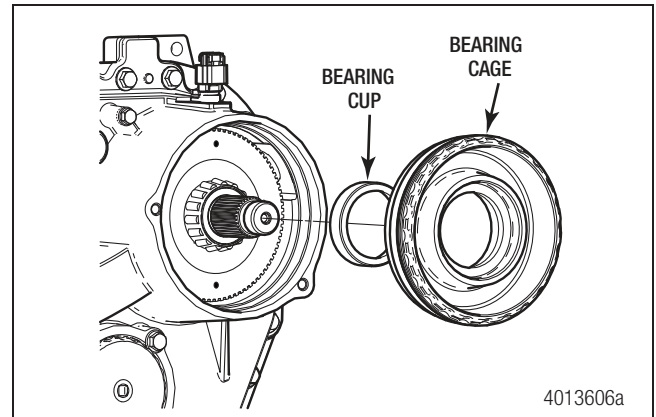

Figure 4.4
5. Remove the adjusting ring bearing cage using the correct removal tool. Refer to "Tools" on page 60. Figure 4.4.